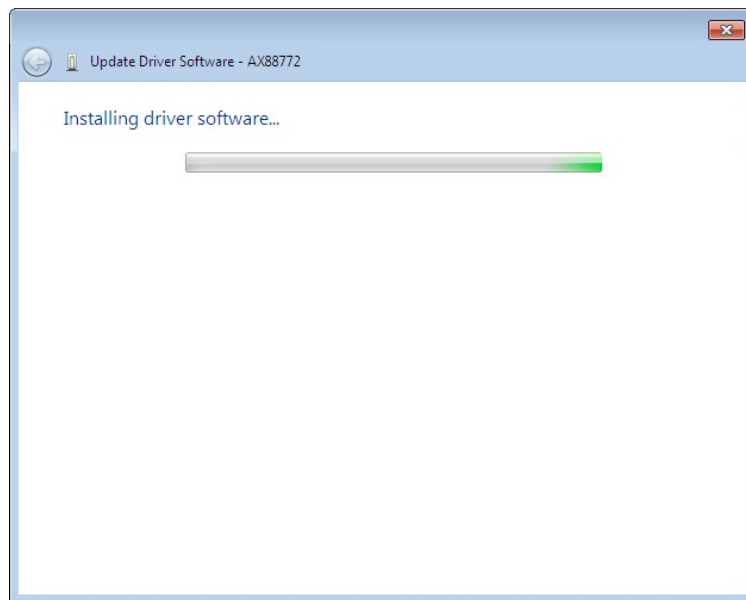

Figure 6-21: Driver Installation Window
Step 16: The following window (Figure 6-21) appears as the driver is installed.